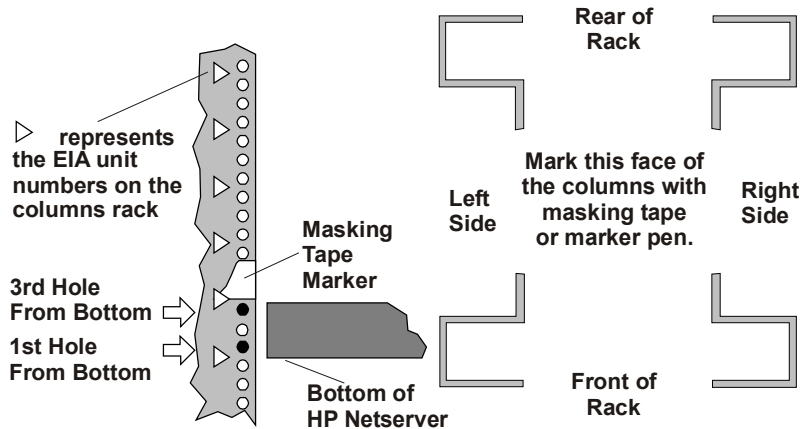

Figure 13-3. Location Marks on the Rack's Columns
2. Use the masking tape (or marking pen) to mark above the 3rd hole up on both front columns, as shown in Figure 13-3.
3. Mark the inside face of the left-rear and right-rear rack columns, with masking tape, as shown in Figure 13-3.
- Match the outer-rail pins to the column holes (1st & 3rd) marked on the front and rear columns. See Figure 13-3.